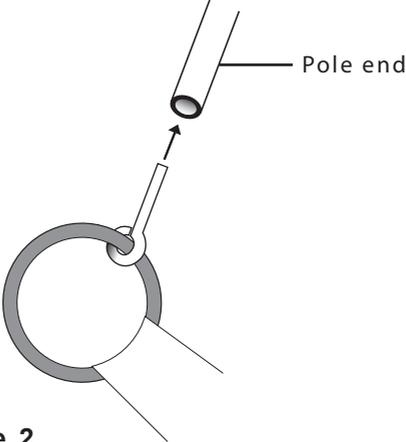
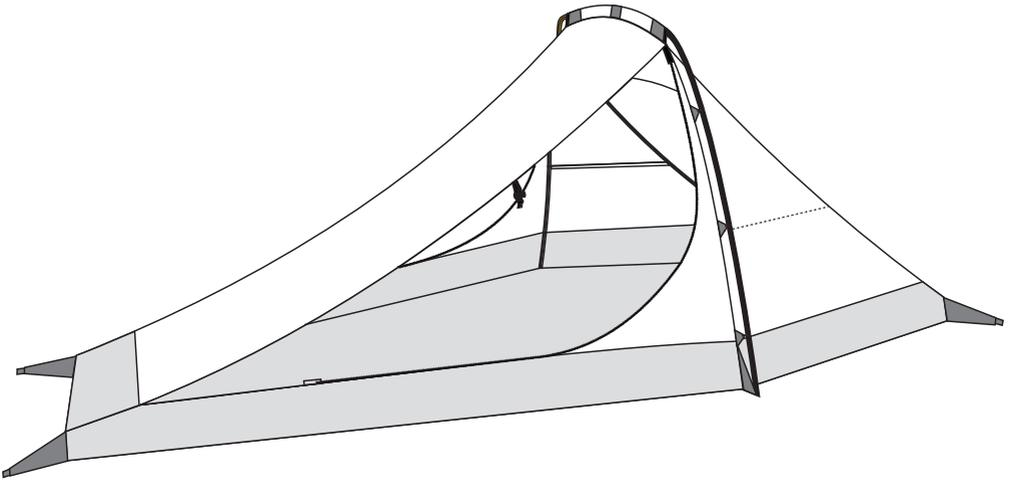

Figure 2
Figure 3
- Slide the assembled pole through the sleeve in the tent (see figure 3). Gently raise the tent and place the ends of the pole onto the pins (see figure 2) on opposite ends across the tent. The tent should stand up during this action (see figure 3)
- Attach the J-Hooks to the poles (see figure 3)